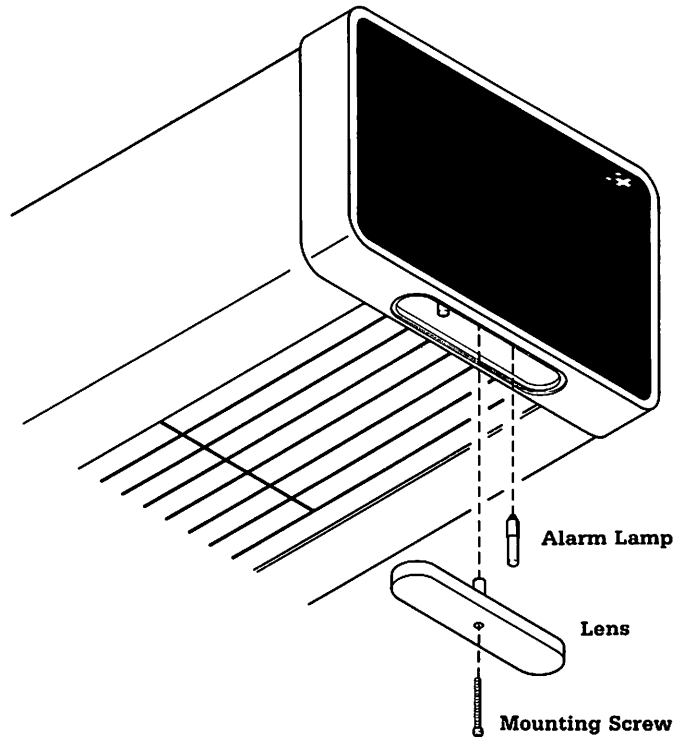

Figure 5-3. Alarm Lamp Replacement.
D. Alarm Lamp Replacement (Figures 5-3)